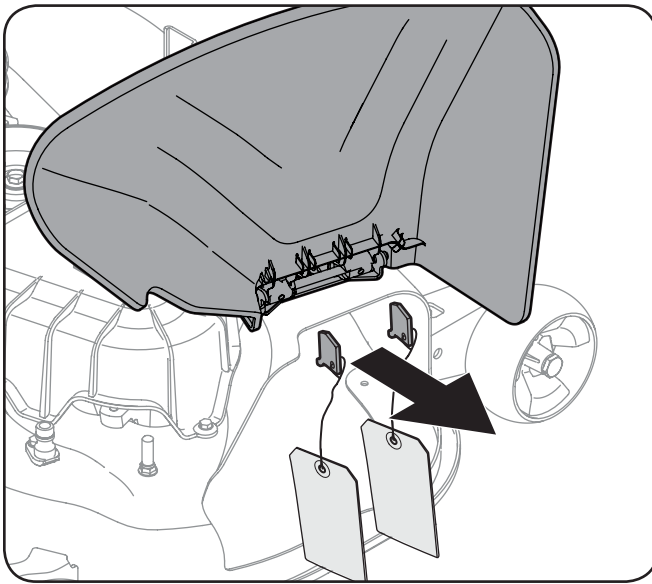

Figure 3-7
7. Holding the chute deflector fully upward, remove the stop bracket by grasping it and rotating it clockwise. Lower the chute deflector Figure 3-7.